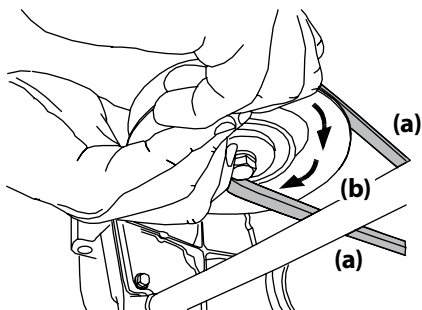

Figure 4-12
- d. While still holding the PTO belt (a) downward, continue turning the PTO pulley (b) until the PTO belt (a) is rolled off the PTO pulley (b). Refer to Figure 4-12.
11. Pull the right side of the PTO belt rearward and place the narrow V-side of the PTO belt into the PTO pulley. See Figure 4-12.
12. While holding the PTO belt and PTO pulley together, rotate the PTO pulley to the left (See Figure 4-12). Continue holding and rotating the PTO pulley and PTO belt until the PTO belt is fully rolled into the PTO pulley.